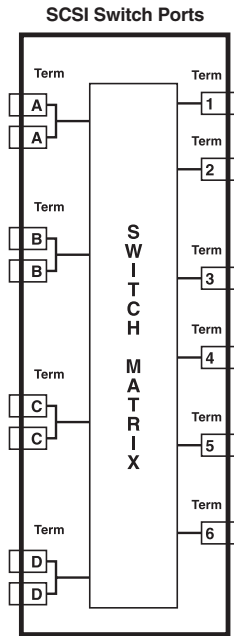
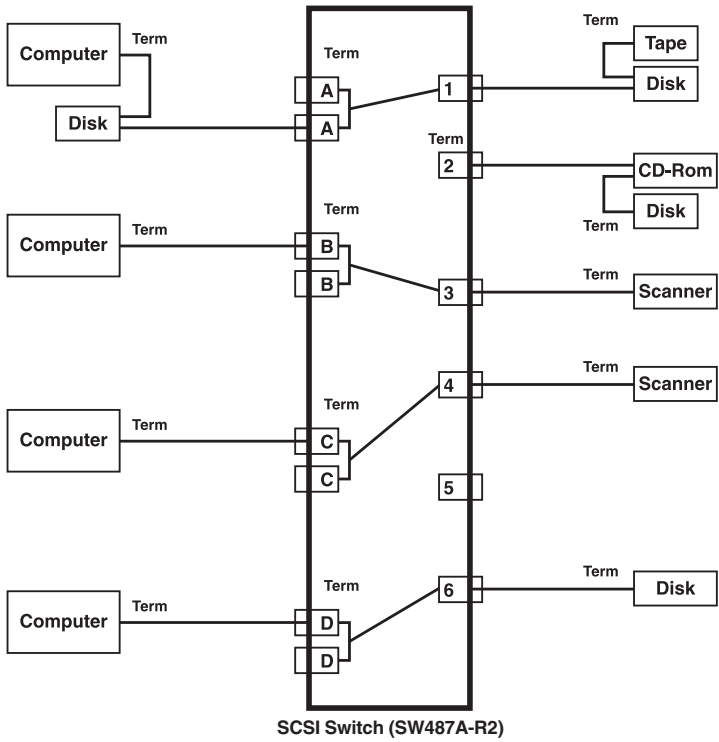

Figure 2-1. Electronic SCSI Switch block diagram.
Figure 2-2. Typical switch installation.
Ports A, B, C, and D are fully bidirectional to ports 1, 2, 3, 4, 5, and 6 (see Figure 2-1). You determine where to connect computers, host adapters, and peripherals. In general, if daisy-chained ports are required for connection to external peripherals, use ports A, B, C, and D. See Figure 2-2 for a typical installation.
- 3. In Figures 2-1 and 2-2, "Term" indicates where terminators should be installed.**